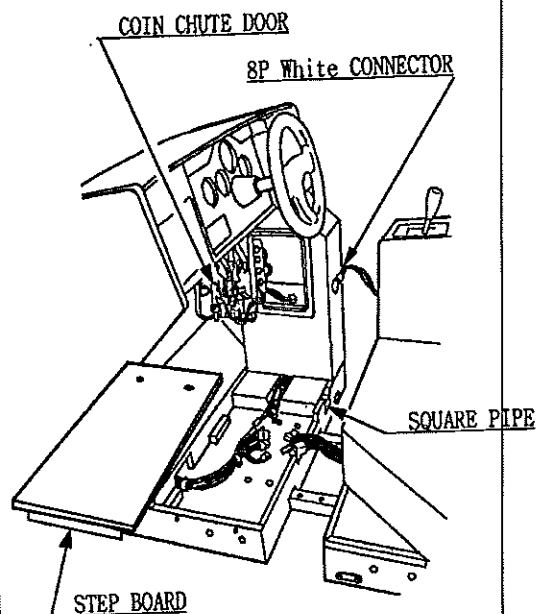

FIG. 6.3
- ① Take out the six hexagon bolts (black) and remove the front cabi's STEP BOARD.
- ② Open the front cabi's COIN CHUTE DOOR.
- ③ Put the wiring connectors (8P white) into the circular hole beside the coin chute door.
- ④ Put the Optical Fiber cable through the front cabi's square pipe (FIG. 6.3).